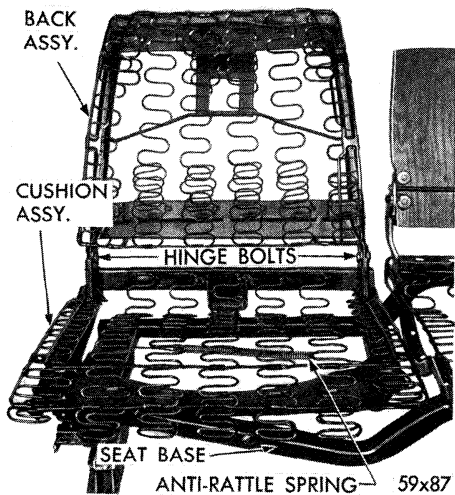

Fig. 123—Swivel Seat Installed
er springs from the bottom of the seat assembly. Remove the two hinge bolts, Figure 123, and lift the seat back assembly straight up to remove.
**ANTI-RATTLE SPRING REPLACEMENT (FIG. 123)**